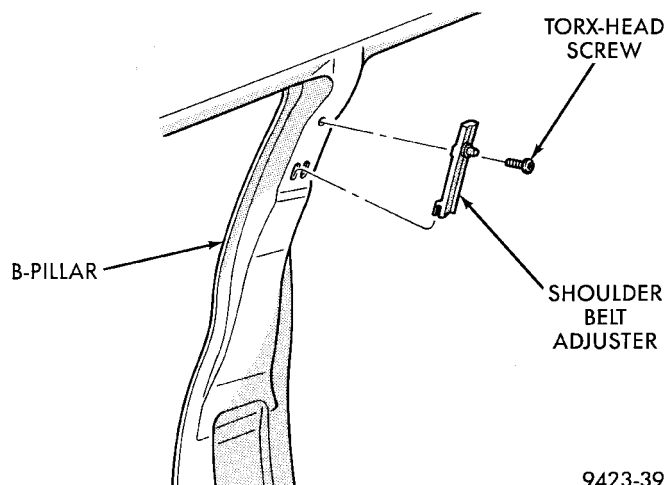

Fig. 66 Front Shoulder Belt Adjuster
- (1) Remove B-pillar trim.
- (2) Remove bolt holding shoulder belt adjuster to B-pillar (Fig. 66).
- (3) Separate shoulder belt adjuster from vehicle.